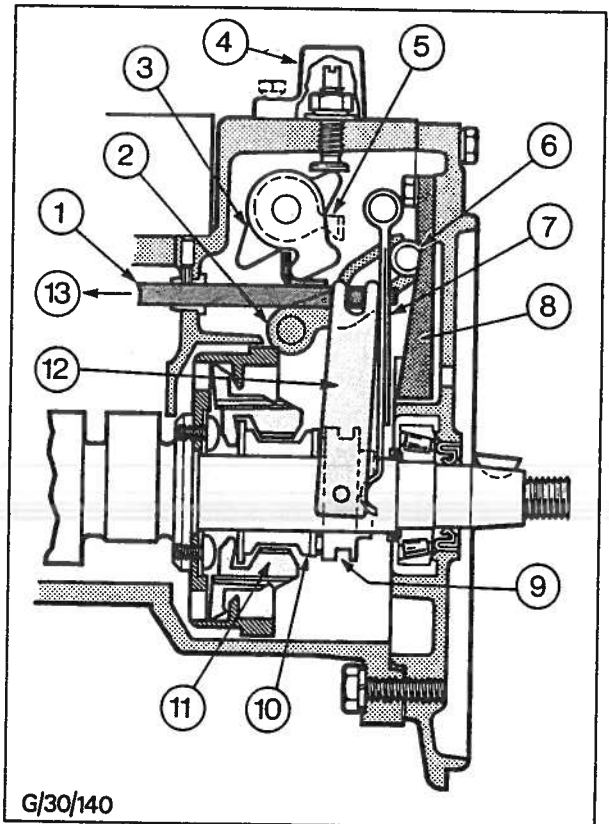

Fig. 30 - Governor Assembly
**Static to Idling Speed - See Fig. 30**